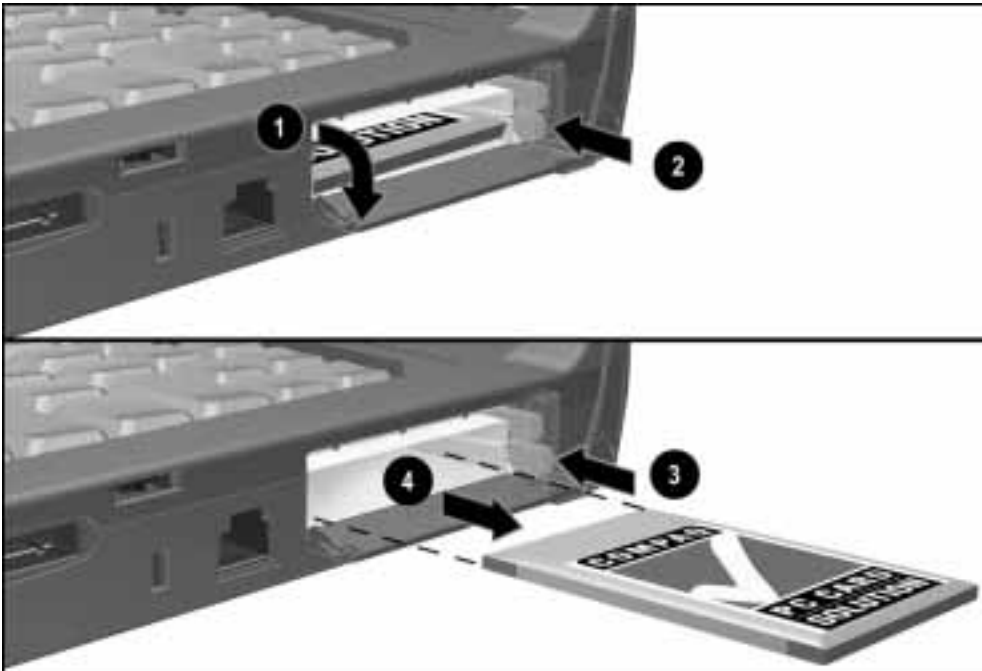

Figure 5-14. Removing a PC Card
1. Open the PC Card door by flipping it down ❶ (Figure 5-14).
2. Press the PC Card eject button ❷ for the card to be ejected. The eject button extends.
3. Press the eject button a second time ❸. The PC Card partially ejects from the PC Card slot.
4. Remove the PC Card from the PC Card slot ❹.